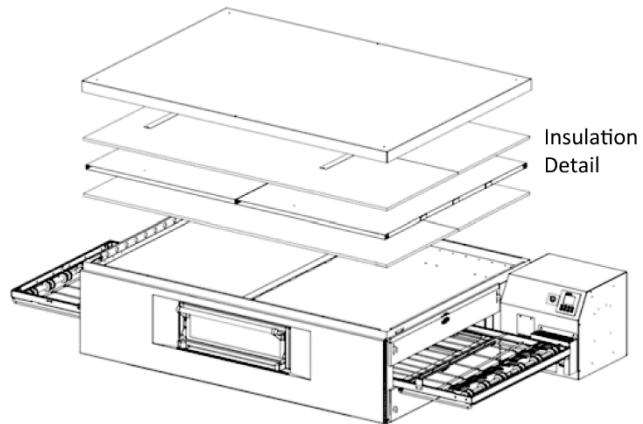
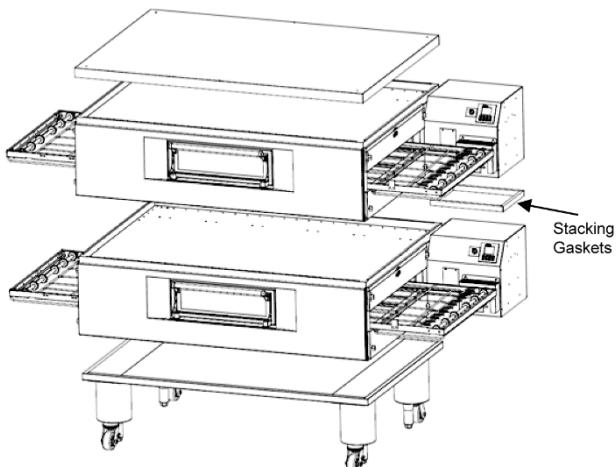

Figure 17. Top Panel Installation
Figure 18. Stacking Order
Install the top panels using the screws included in the base pad kit, as shown in Figure 17. Then, skip ahead to Part C, Restraint Cable Installation.
See Figure 18.
3. Install the top panel using the screws included in the kit, as shown in Figure 17 and Figure 18.